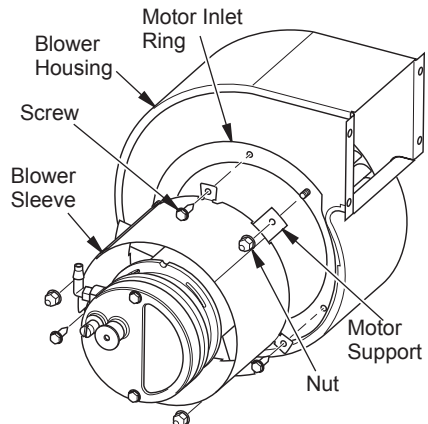

Figure 18 - Fan, Motor Shaft, and Setscrew Location
4. Remove 3 screws securing blower sleeve to blower housing (see Figure 18). Set blower sleeve aside.
6. Remove 3 nuts securing motor support to blower housing (see Figure 18). Carefully remove motor assembly from blower housing.